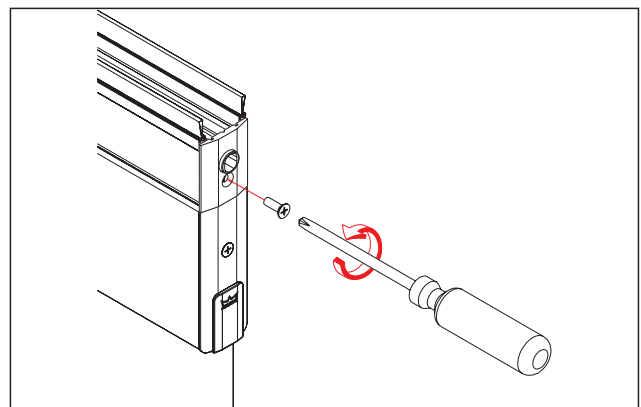

Fig. 40 Tightening the cover
9. Tighten the cover (Fig. 40).